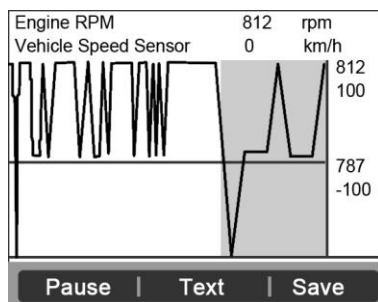

Figure 5.12
- If the **“Graphics”** on the bottom appears when a PID is highlighted, graphic information is available. Select **Graphics** to view graph. (Figure 5.12). PID name, current value, maximum and minimum values are displayed on the screen.